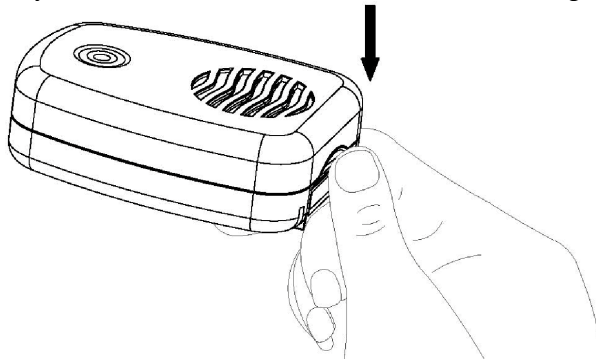

Figure 1
1. Remove the battery door on the back of the sensor, as shown in Figure 1 .